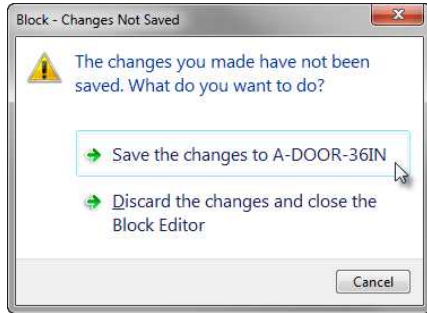

FIGURE 7.8 : Choosing to save changes from the Block – Changes Not Saved dialog box
13. If prompted, choose Save The Changes To A-DOOR-36IN (A-DOOR-0915) from the Block – Changes Not Saved dialog box, as shown in Figure 7.8.